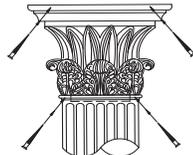

Figure 1
8. Decorative Capitals should be anchored to the soffit by pre-drilling and using a toenailing attachment. Use stainless steel screws and seal with waterproof silicon caulk. See Figure 1.